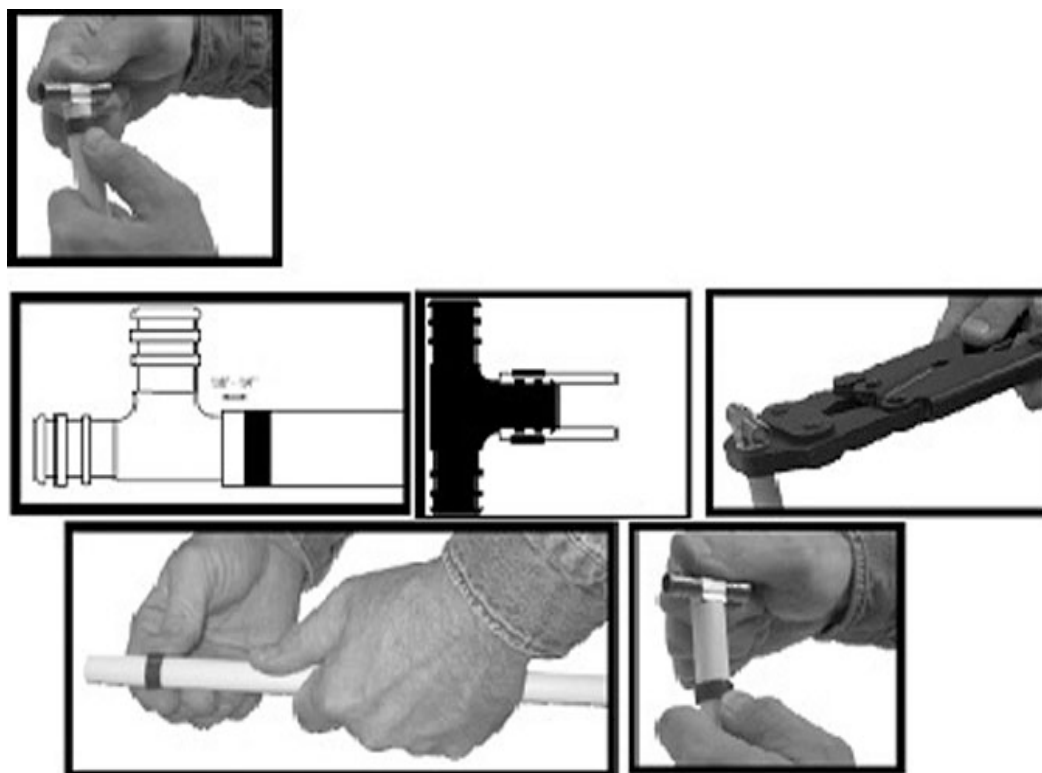

Figure 1-1. Crimping tool.
4. Center the crimping tool (fig. 1-1) jaws over the ring. Hold the tool at 90 degrees to the fitting and close the jaws completely. Crimp only one time; if crimped more than once, you must cut out the connection and begin again at Step 1.